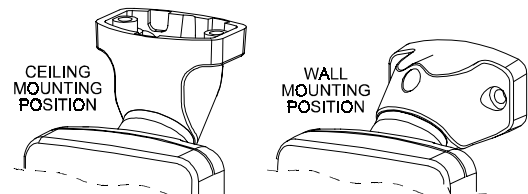

Figure 5. Wall and Ceiling Positions of Bracket
- E. Rotate the bracket to the desired position (see Figure 5) but do not yet tighten the screw fully.